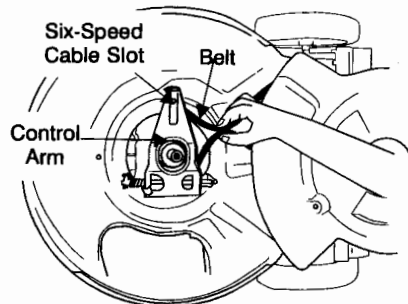

Figure 22
- wards the deck and remove the six speed cable from the slot. See figure 22.